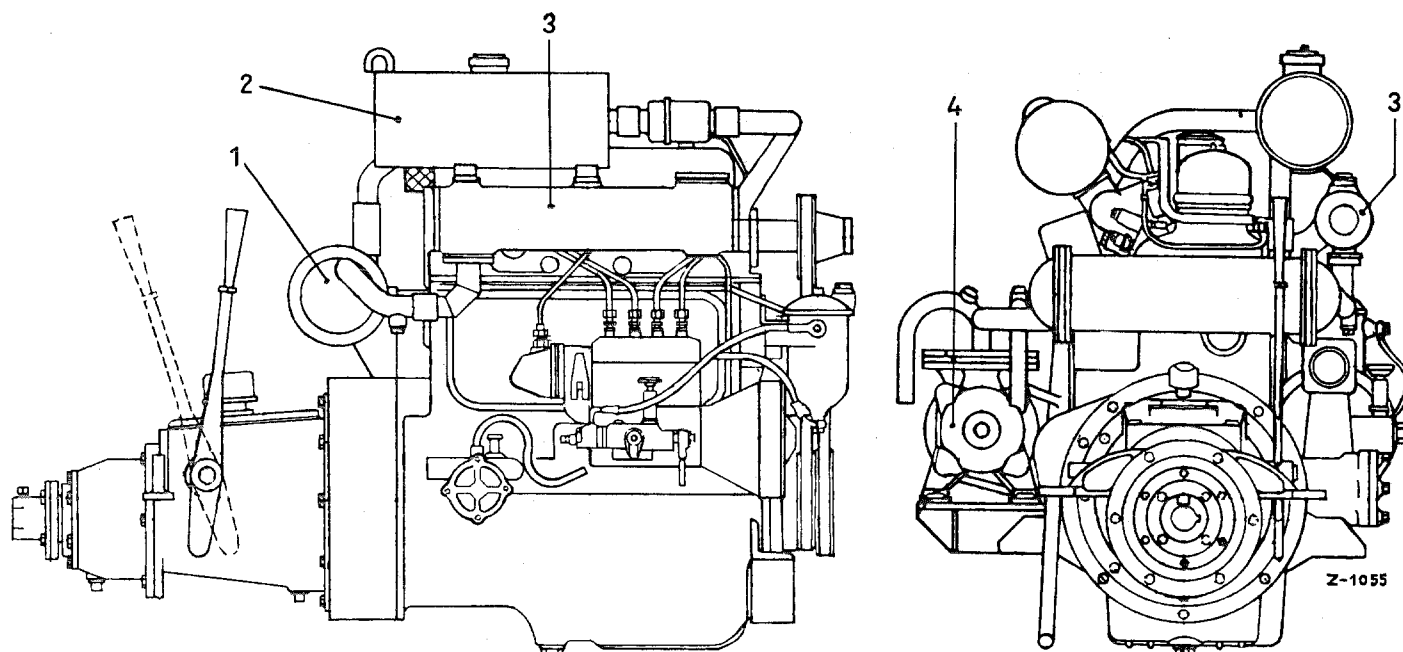

Figure 20-3/3
The heat exchanger and the expansion tank are installed separately. The heat exchanger (1) is installed at the flywheel end, the expansion tank is arranged above the water-cooled exhaust pipe (3) (see Figure 20-3/3).